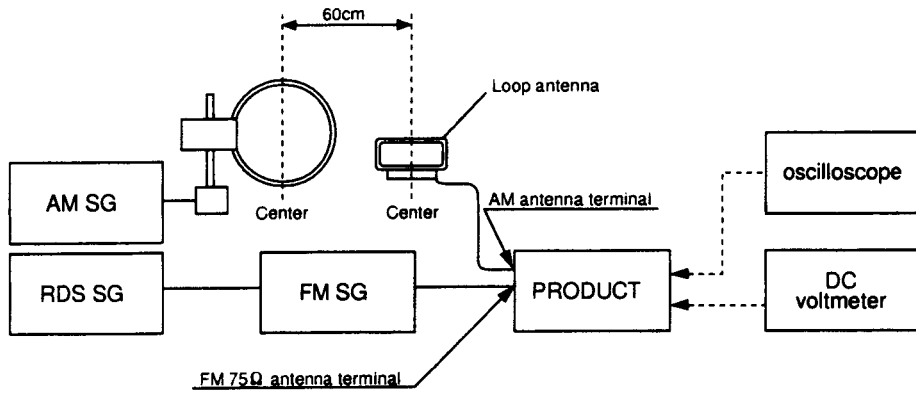

Fig. 5-1 AM and FM Adjustment Wiring Diagram
- Connect the wiring as shown in Fig. 5-1.